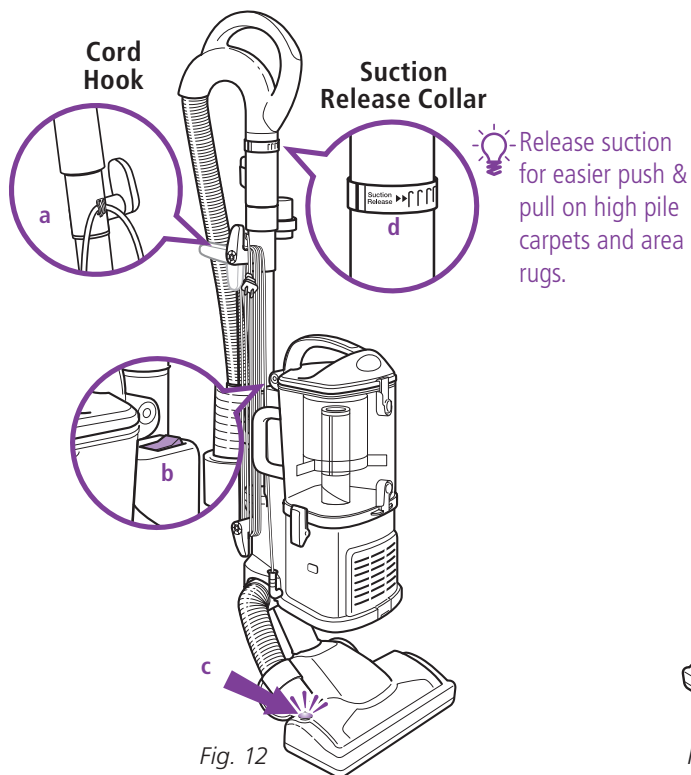

Fig. 12
- 2 Secure the power cord in the cord hook (a). (Fig. 12)
- 3 Press the On/Off switch (b) to the "I" position to vacuum bare floors (straight suction only) or to the "II" position to engage the motorized floor brush (for vacuuming carpets and rugs). (Fig. 12)
- ! IMPORTANT:** The motorized brush indicator light (c) will illuminate green when motorized floor brush is on, or red if there is a blockage or a jam. (Fig. 12) This feature is designed to protect your Lifetime Belt that powers your motorized floor brush. See Checking for Blockages on page 15.
- 5 Due to the huge suction power of this vacuum, it may become necessary at times to adjust the suction release (d) on the handle. (Fig. 12) If the vacuum seems difficult to push or pull or if it is lifting up area rugs, adjust the suction release by rotating the collar 90° counterclockwise to open the valve. Rotate the collar clockwise to close the valve when you need high suction and for vacuuming floors.